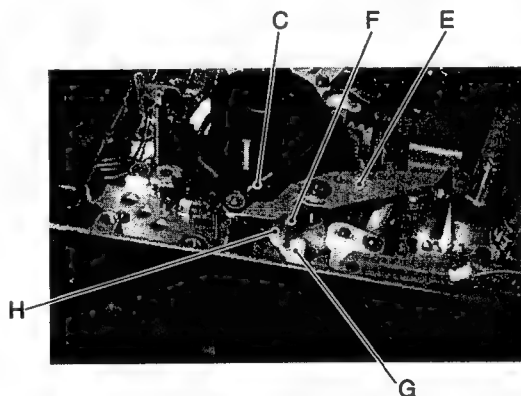

Fig. 2-7-26
1. Attach take-up tension arm assembly E so that lever F of the take-up tension arm assembly enters between the two levers G and H as shown in Fig. 2-7-26.